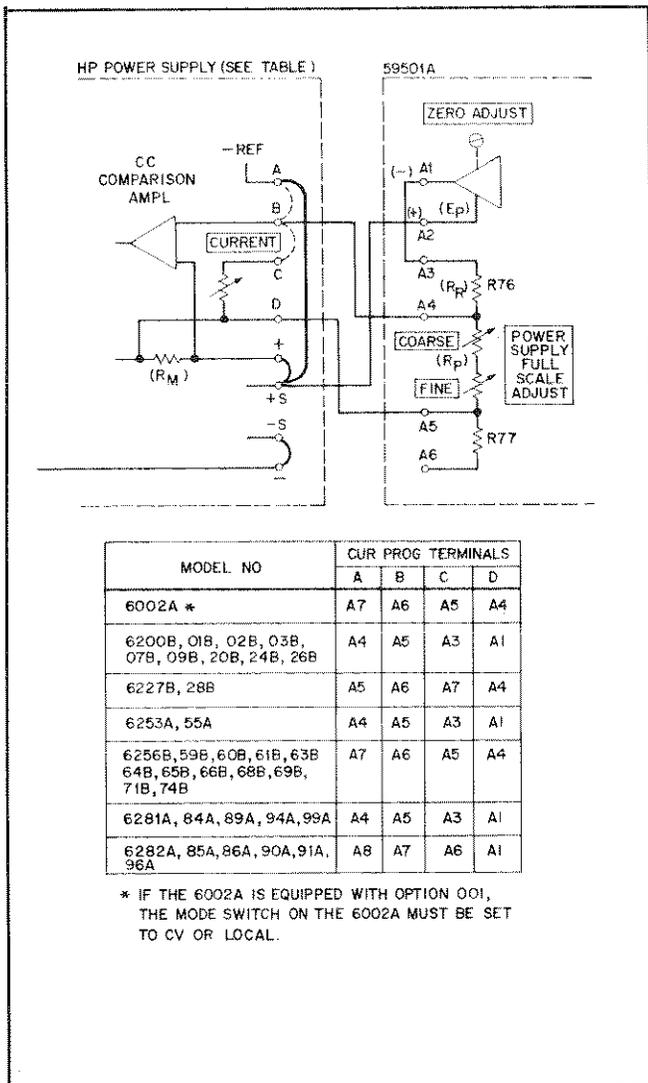

Figure 3-12. CC Programming Connections for HP Power Supply Models with +S Common
**3-52 CC Programming Connections.** Figures 3-12 through 3-17 illustrate the connections required to program the CC output of the applicable power supplies. The dotted connections represent jumpers which must be removed on the supply's rear terminal strip. All other jumpers must be connected as illustrated. Note that only those power supply terminals pertinent to CC programming are shown. Complete terminal strip details are provided in the appropriate power supply Operating and Service manual. Most of the supplies are programmed utilizing the connection diagram of Figure 3-12. The specific connections for each supply are tabulated on the diagram. In all cases (Figures 3-12 through 3-17), the 59501A's programming output voltage is substituted for the supply's internal reference and the 59501A's POWER SUPPLY FULL SCALE ADJUST potentiometers replace the supply's front panel CURRENT control.